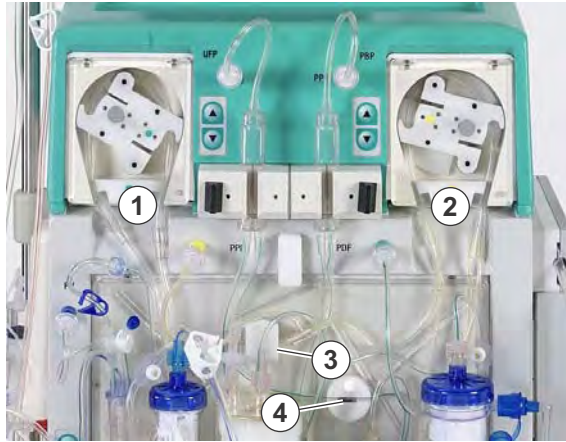

Fig. 4-9 Installing the pump segments
4. Place pump segment of ultrafiltration line into ultrafiltration pump (white marking on left, Fig. 4-9, ①).
5. Place pump segments of plasma and buffer line (marked brown and yellow) successively into plasma/buffer pump (Fig. 4-9, ②).
7. Insert plasma line, coming from plasma filter, into blood leak detector (BLD, Fig. 4-9, ③).
8. Firmly insert filtarte line to heparin adsorber into heparin adsorber clamp (HAK, Fig. 4-9, ④).